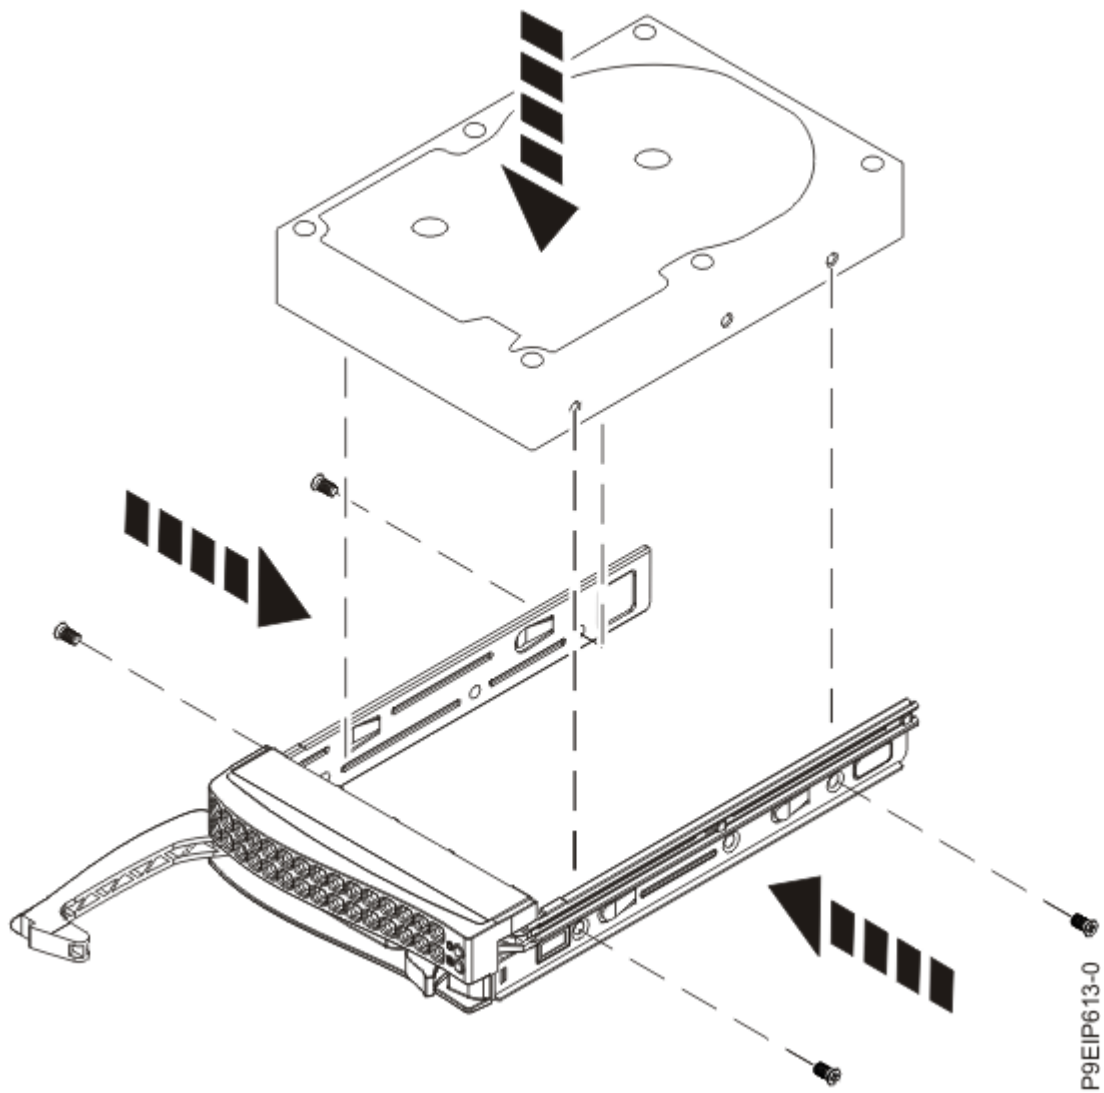

Figure 5. Mounting the 3.5-inch drive in the tray
- A 3.5-inch drive fills the tray, as shown in Figure 5 on page 8. Fasten the drive to the sides of the tray with the screws (two or three screws on each side), depending on the number of threaded holes present on the drive. If the number of threaded holes is greater than the number of screws that are available, use the threaded holes that are closest to each end of the drive.